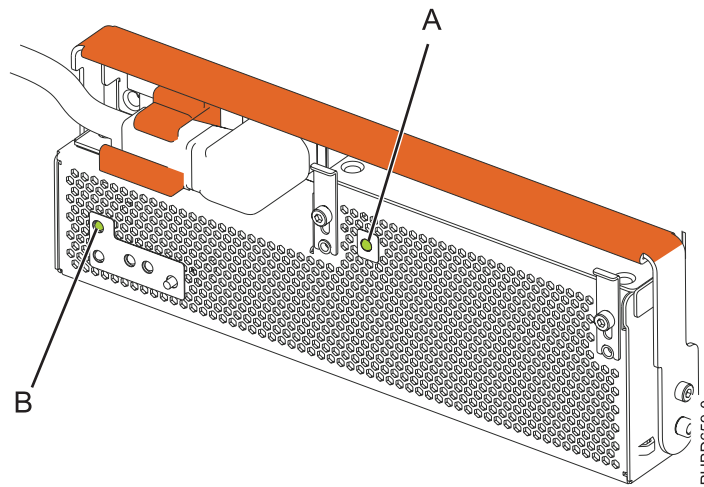

Figure 26. Expansion unit ac power and OCA power LEDs
9. Note the state of the green ac power in (A) and offline converter assembly (OCA) power (B) light-emitting diodes (LEDs) shown in Figure 26, and do one of the following actions, as applicable:
- If the LEDs indicate that the power supply is operating normally, that is, that the ac power in LED (A) is on solid and the OCA power (B) LED is on solid or flashing, continue to the next step.